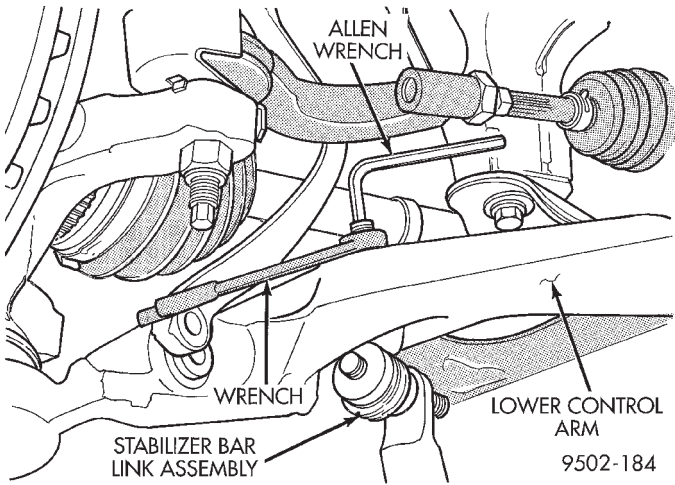

Fig. 56 Stabilizer Bar Attaching Link Nut Removal
(1) Raise vehicle on jack stands or centered on a frame contact type hoist. See Hoisting in the Lubrication and Maintenance section of this manual, for the required lifting procedure to be used for this vehicle.
(2) Remove nuts and stabilizer bar attaching link assemblies from the front lower control arms (Fig. 56). When removing attaching link nut, keep stud from turning by installing an allen wrench in the end of the stud (Fig. 56).